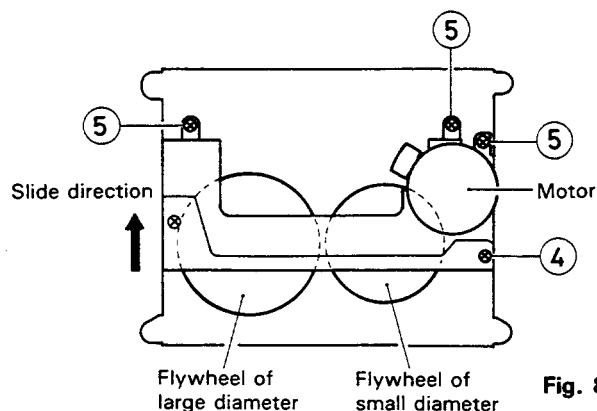

Fig. 8
1. Remove the four screws ④ and ⑤ fixing the FM bracket.
2. Remove the FM bracket by sliding it to the left (Fig. 8)